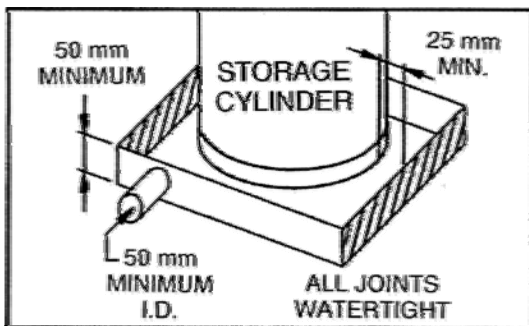

Fig. 15.2: Safe tray details
N.B. Rheem recommends the installation of a safe tray under every water heater installed indoors where there is the possibility of damage being caused by leaking water. (See Fig. 15.2 for safe tray details.)